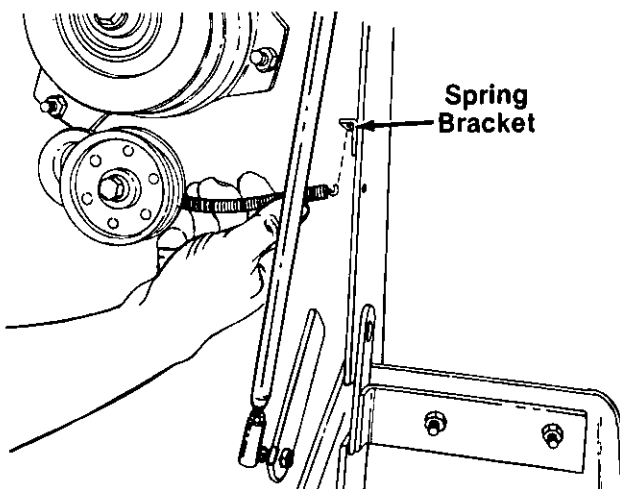

FIGURE 25.
3. Unhook the spring on the idler pulley from the spring bracket, located near the engine pulley. See figure 25.